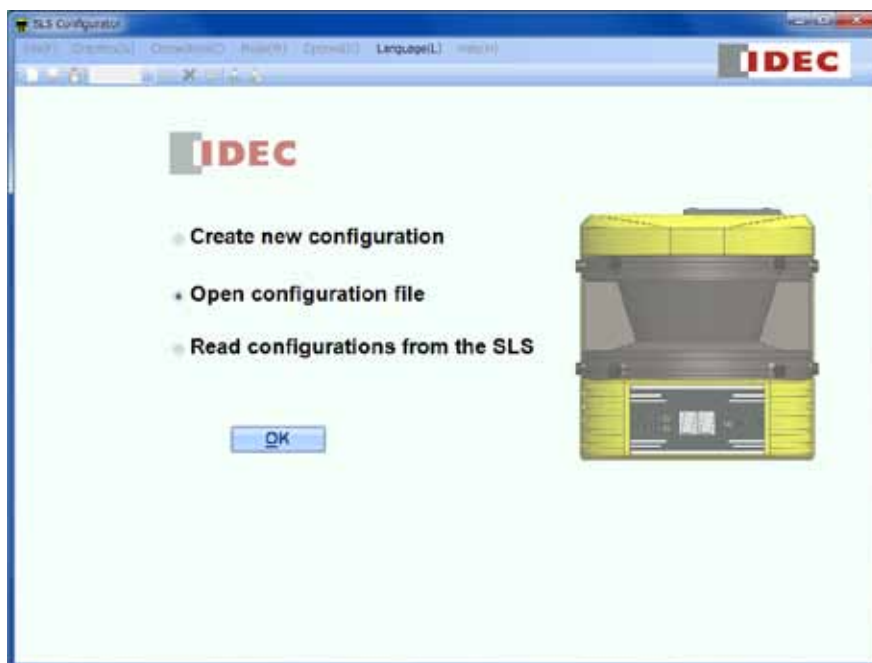

Figure 7-2. Main window
a) A main window as shown in Figure 7-2 will be displayed after the SLS Configurator is started.